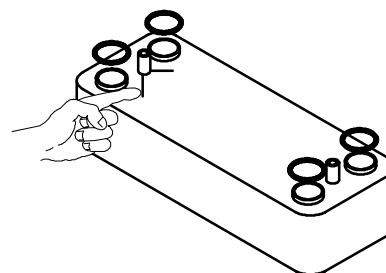

fig. 19
**Attention.** Reassembling the exchanger be sure to put the reference marks indicated in fig. 19 towards the left side of the boiler.